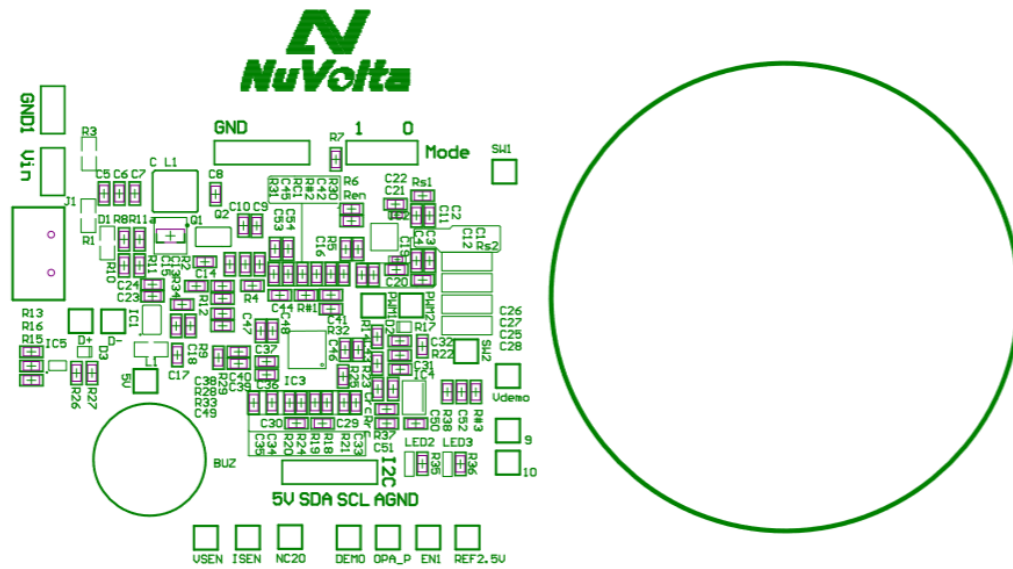

Figure 10. Top Overlay
- Separate the analog ground plane from the power ground plane, and use only one point to join them. Please refer to the R34 of Figure 10.
- Place small size of input capacitors as close as possible between the Vin pin and PGND pin. These capacitors can effectively filter out high-frequency noises due to its low ESR and ESL. Please refer to C19 and C21 of Figure 10.